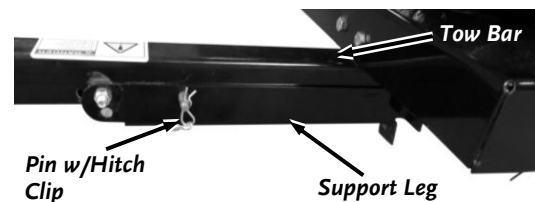

Figure 10
1. Pull the Hitch Clip from the Pin and pull the Pin from the Support Leg and Tow Bar (**Figure 10**).